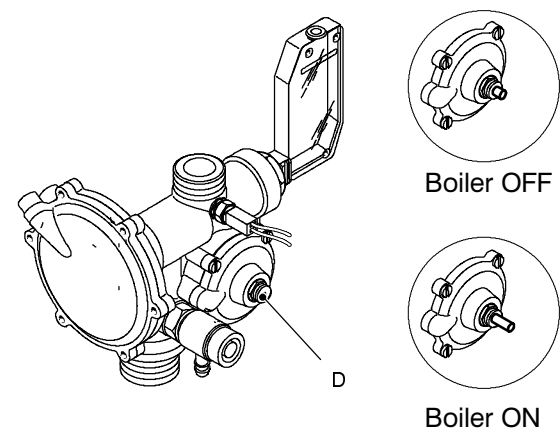

fig. 59
- 3 Start and stop the boiler in c/h operation (time switch and external controls must call for heat) and verify the position of the shaft D referring to fig. 59